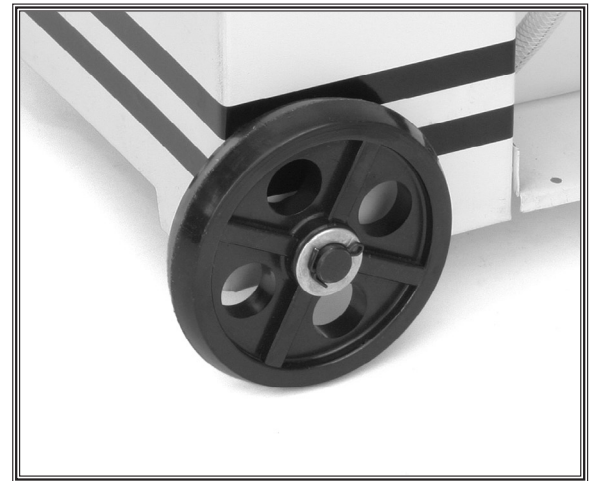

Figure 13. Installed wheel.
4. Slide the two 5/8" flat washers onto the axles, and install the two cotter pins (see **Figure 13**).